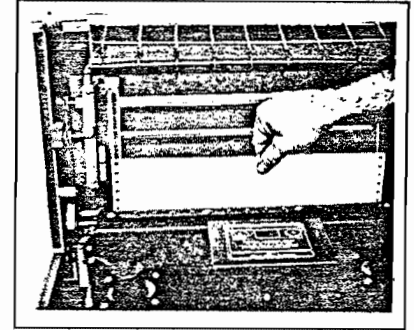

Figure 6
- e. Raise paper to the tractors, keeping paper vertical (figure 6). If sprocket holes in paper do not match the distance between tractor feed pins, loosen knurled nuts on tractors and slide tractors sideways as